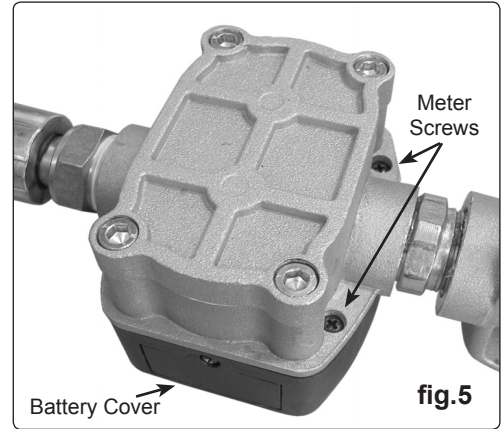

fig.5
4.5.1 Remove the rubber protective cover from the meter and unscrew the four phillips screws (fig.5) holding the digital meter, remove from the gun.